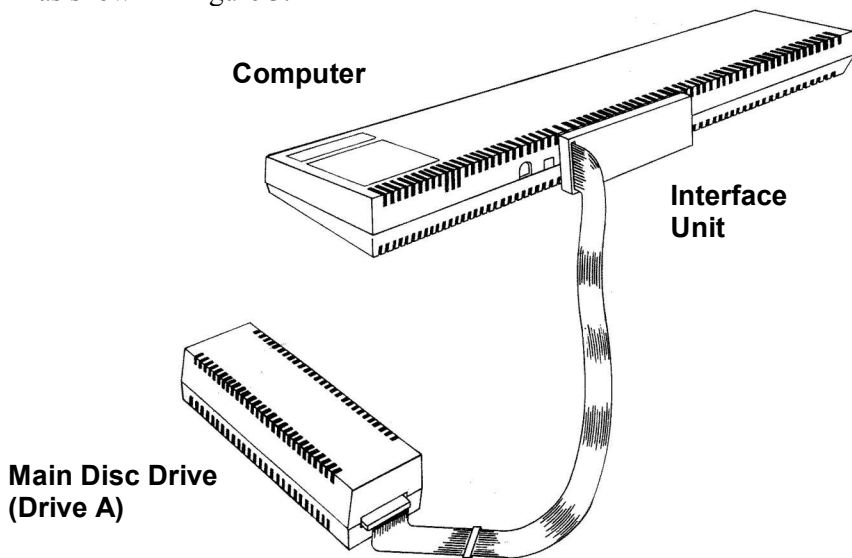

Figure 3
4. If you are operating with one disc drive only, connect the computer and disc drive as shown in Figure 3.